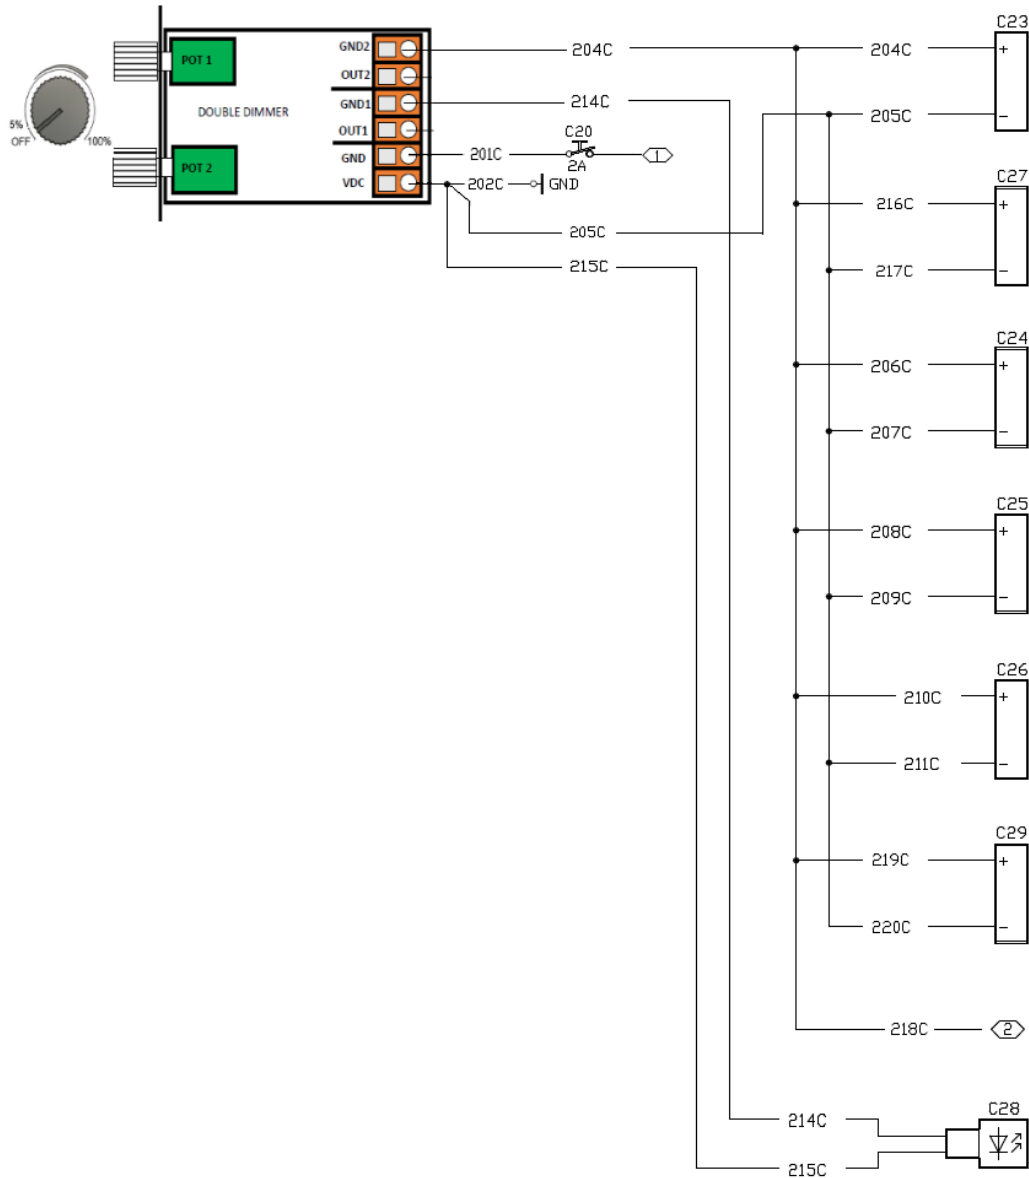

Fig. 8: Electronics connection
- 10) Connect the wires to the terminal block according to the wiring diagram (see Fig. 8), secure the terminal block screw against loosening with paint.